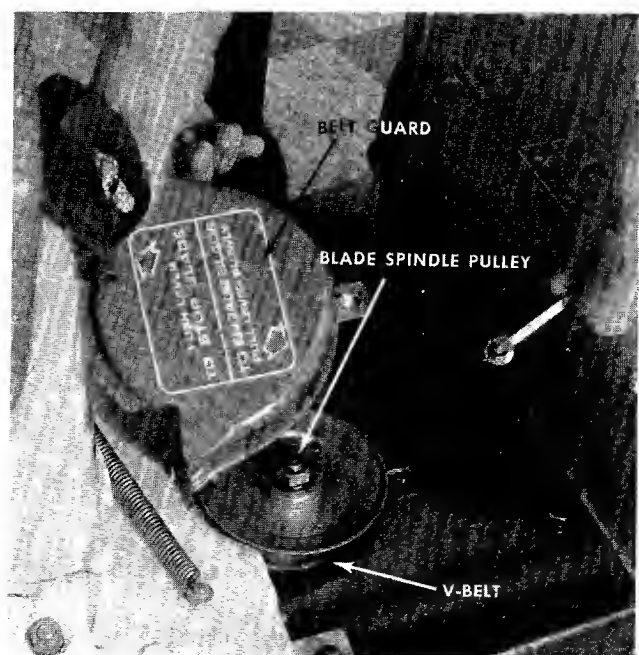

FIGURE 16. BLADE PULLEY
Step 3. Add grease until it shows between the pulley and the frame. The belt guard on the blade spindle pulley must be removed. See figure 16. Lubricate once a season or every 50 hours, whichever comes first. Wipe up excessive grease.
- Step 7. Remove the belt guard on the blade spindle pulley. See figure 16. Unhook the belt from the pulley.